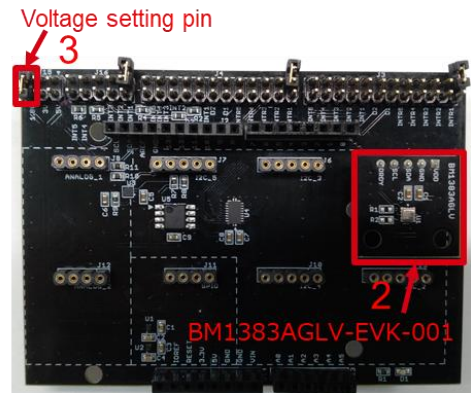

Figure 2. Connection between BM1383AGLV-EVK-001 and the SensorShield
2. Connect BM1383AGLV-EVK-001 to the socket of I2C area on the SensorShield (Figure 2)
3. Set Voltage of the SensorShield to 1.8V or 3.0V (Figure 2)